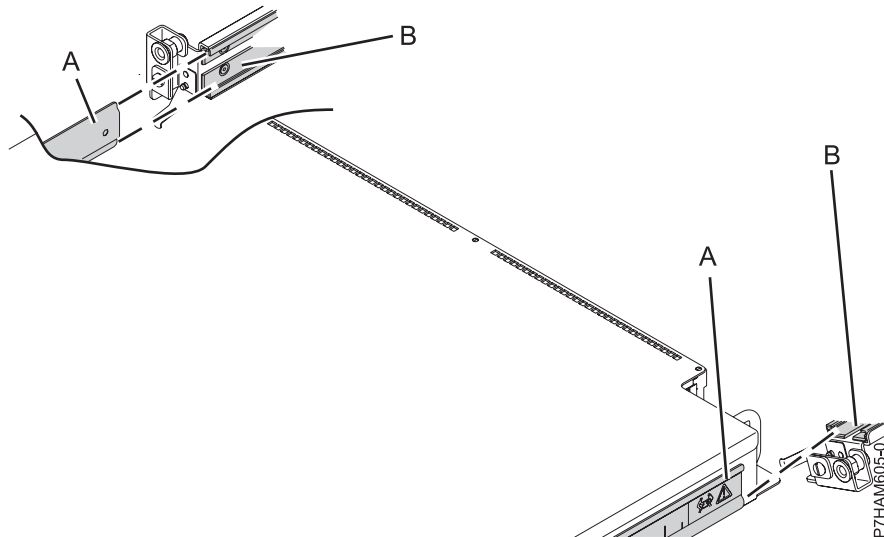

Figure 12. Reviewing the enclosure attachment to the rails
- a. Before you attempt to mount the PCIe storage enclosure to the rails, review Figure 12 to observe how the chassis bracket guide (A) on the side of the enclosure fits and slides into the rail sheath (B) that matches its shape.
**Note:** In Figure 12, the right rail (B) is portrayed at an angle to show the location of the rail sheath. The actual rail is mounted in an upright position in the rack.